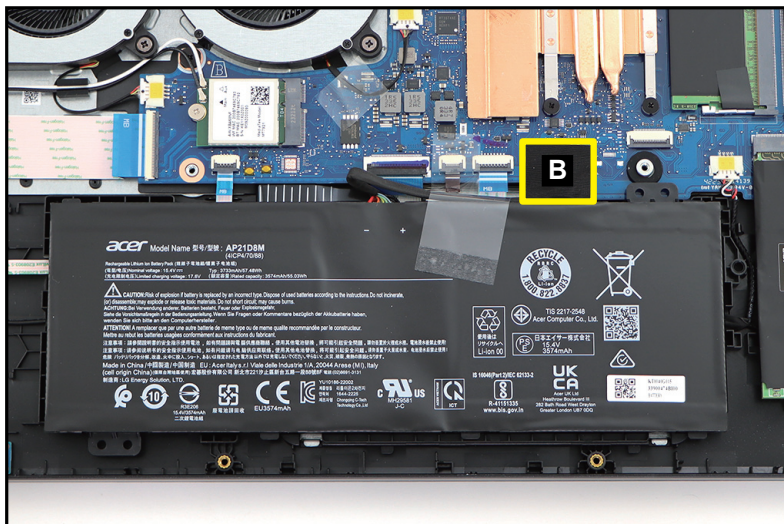

Figure 1-6. Battery Pack Removal
2. Detach the tape (B) securing the battery cable connection (Figure 1-6).